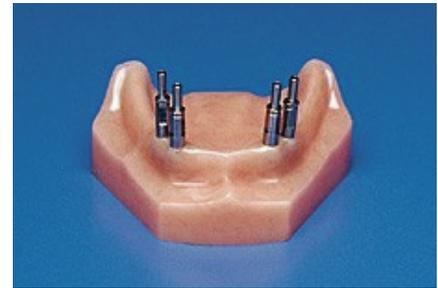

Figure 1
1. **If necessary, verify the diameter of the prosthetic top of the implant and the flair of the healing abutment (Fig. 1).**